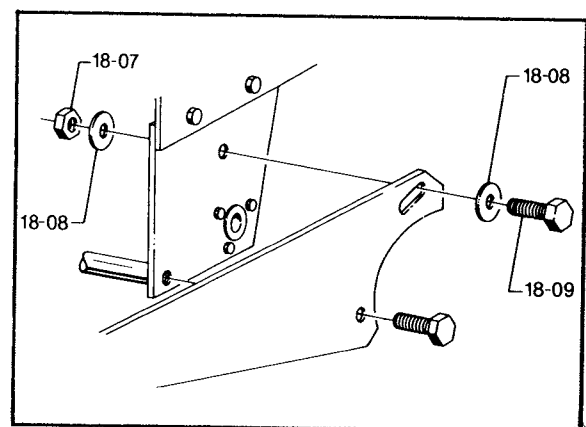

Figure 2 - Fasteners used for installation on all models of case sealers EXCEPT 7A Model 176 & 7R Model 176.
5. For all models of case sealers, except 7A Model 176 & 7R Model 176, remove chain guards (F) by means of phillips head screwdriver. Mount tape drum bracket using one screw (C) and fasteners 18-07, 08, and 09 as illustrated in figure 2. Re-mount chain guards.
6. Install the tape drum assembly (A) on the bracket (D) as shown and secure at a dimension .625 inch [15.8 mm] between the bracket and tape drum flange to accommodate 2 inch or 48 mm wide tape rolls. To center the tape web on the applying roller or accommodate other tape roll widths, refer to the tape web alignment adjustment in the adjustment section of the instruction manual that came with the case sealer.